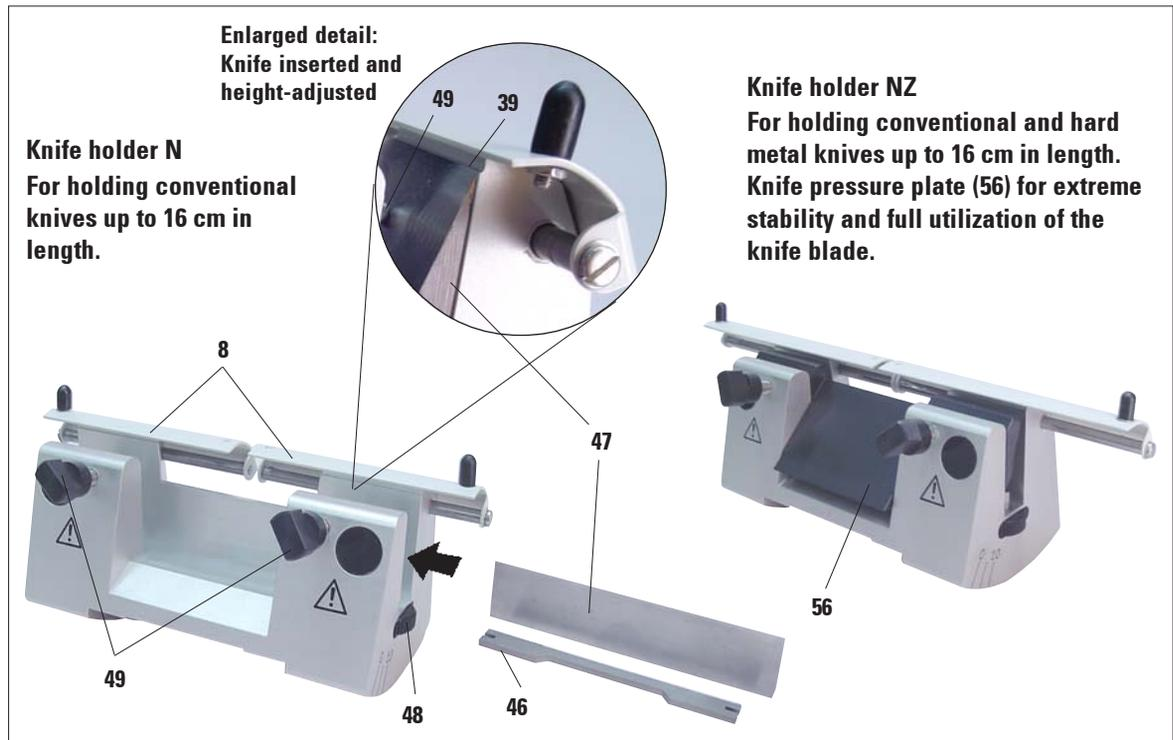

Fig. 44
**When using the freezer pack on the instrument the tray (Fig. 44) must be removed.**